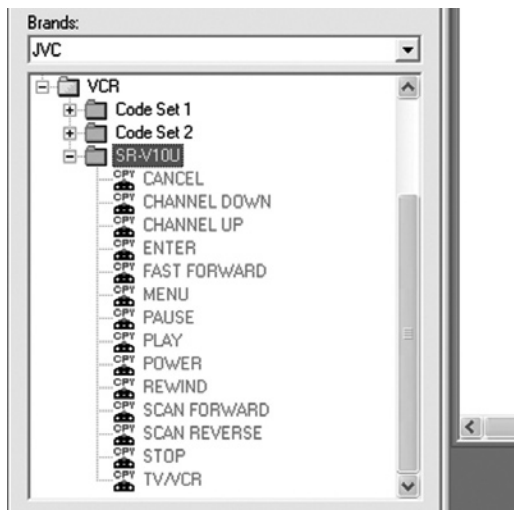

Figure 76 Imported IR Command Set from a Xantech .pal File
- A new blue folder with the chosen Model name will appear in the list, containing the complete IR command set from the .pal file. Refer to **Figure 76**. These commands are then ready for use in any of your projects.